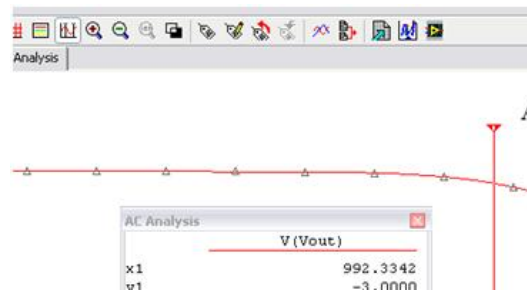

Figure 11. -3dB point
4. Click on OK. The cursor has found your -3dB point (Figure 11).